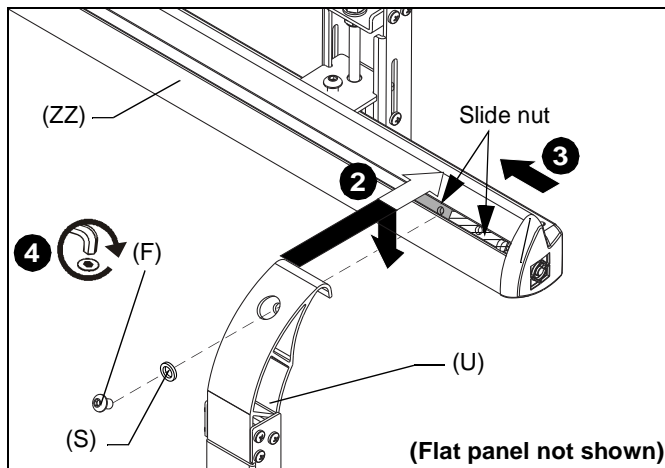

Figure 9
1. Move the slide nut to the outer most position on the wall assembly (ZZ). (See Figure 9)
2. Hook flat panel with attached uprights assembly onto the wall assembly (ZZ). (See Figure 9)
3. Move the slide nut behind the upright (U). (See Figure 9)
4. Fasten upright in place using one 1/4-20 x 3/8" button head cap screw (F) and one 1/16" nylon spacer (S) [from WBM Hardware kit] into slide nut. (See Figure 9)